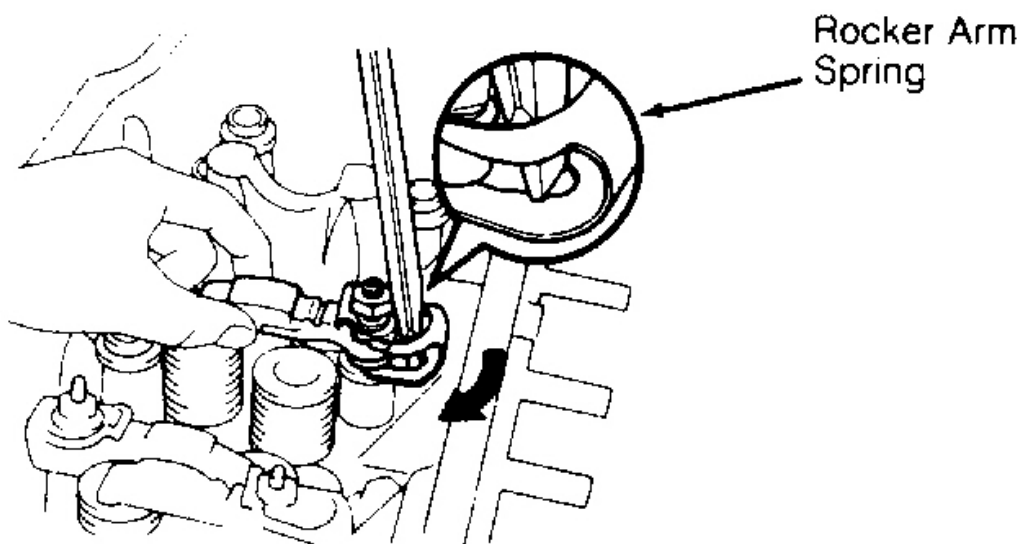

Fig. 8: Installing Rocker Arm
2. Install new rocker arm springs. Press bottom lip of rocker arm spring until it fits into groove on rocker arm pivot. See **Fig. 8** .